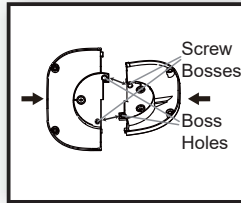

Figure 4
2. Align two screw bosses and boss holes on back of two halves of base according to Figure 4.